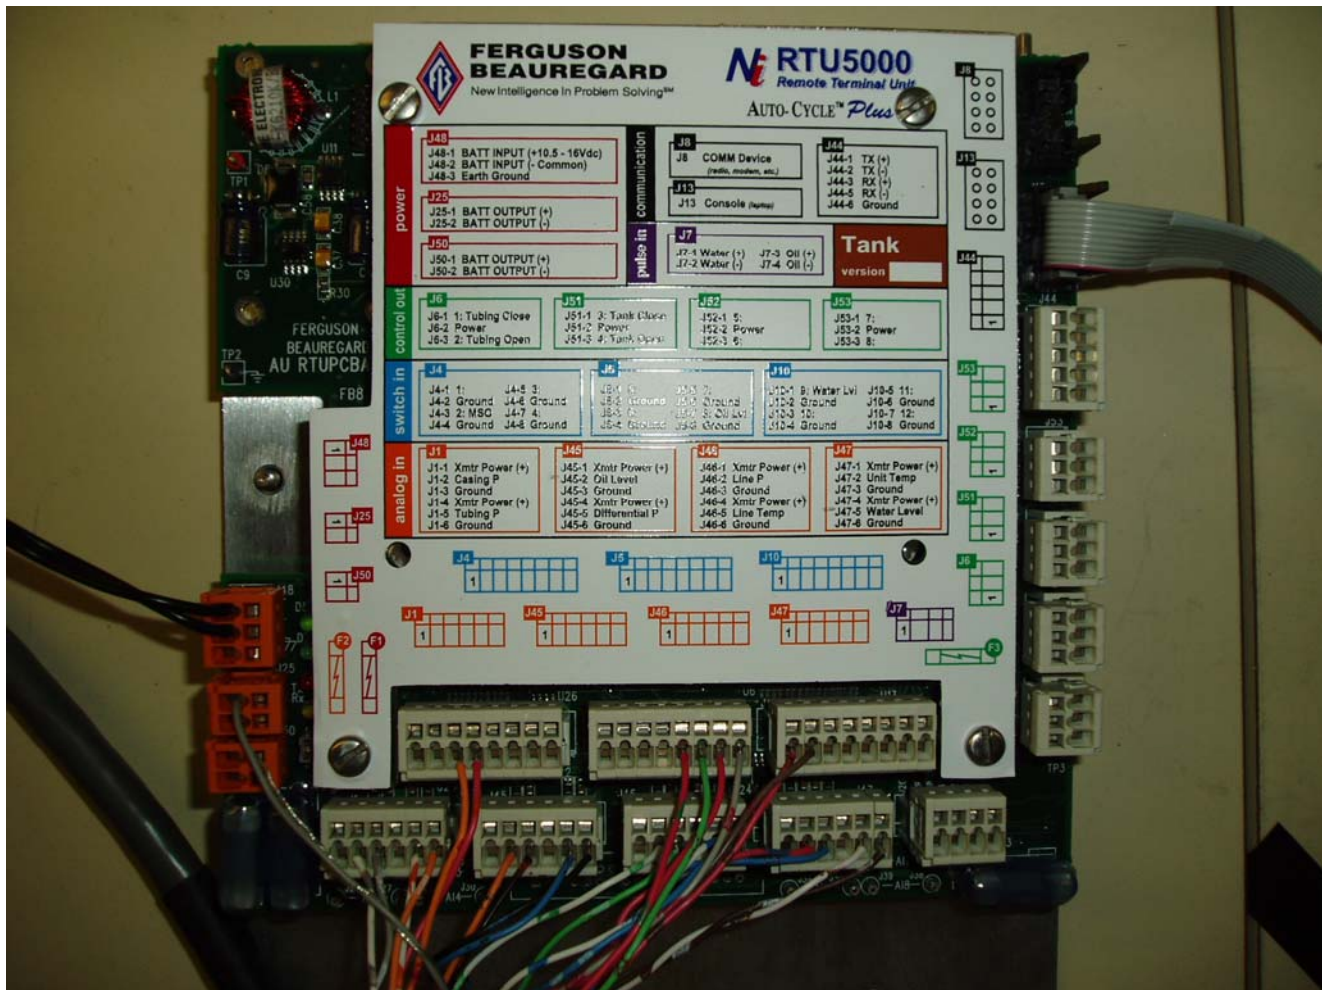

Figure 4. RTU wiring example.
- 6) Connect the interface wiring to the RTU connectors as shown in Figure 4.